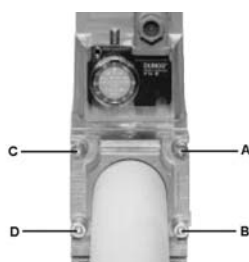

Fig. 12
1. Loosen screws A and B **do not** unscrew (Fig. 12 - Fig. 13).
2. unscrew screws C and D (Fig. 12 - Fig. 13).